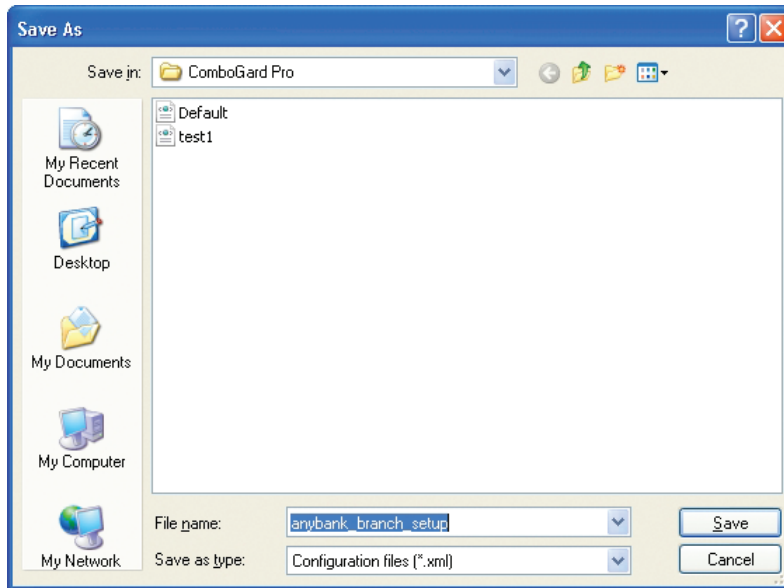

Figure 16
- 2. Name the file and click the **Save** button (Figure 16).